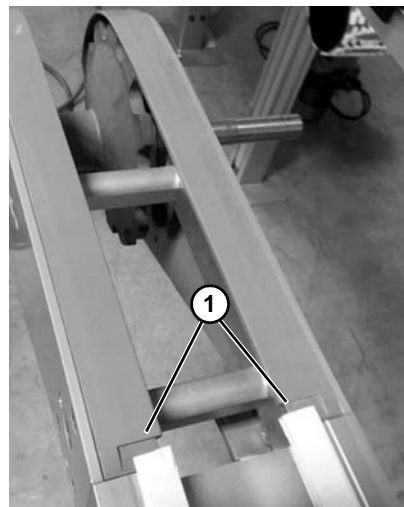

Figure 36
- Allow 5 mm expansion gaps where slide rails end at drive tail top side, idler tail return side, and wheel corner inner rail transitions (**Figure 36, item 1**).